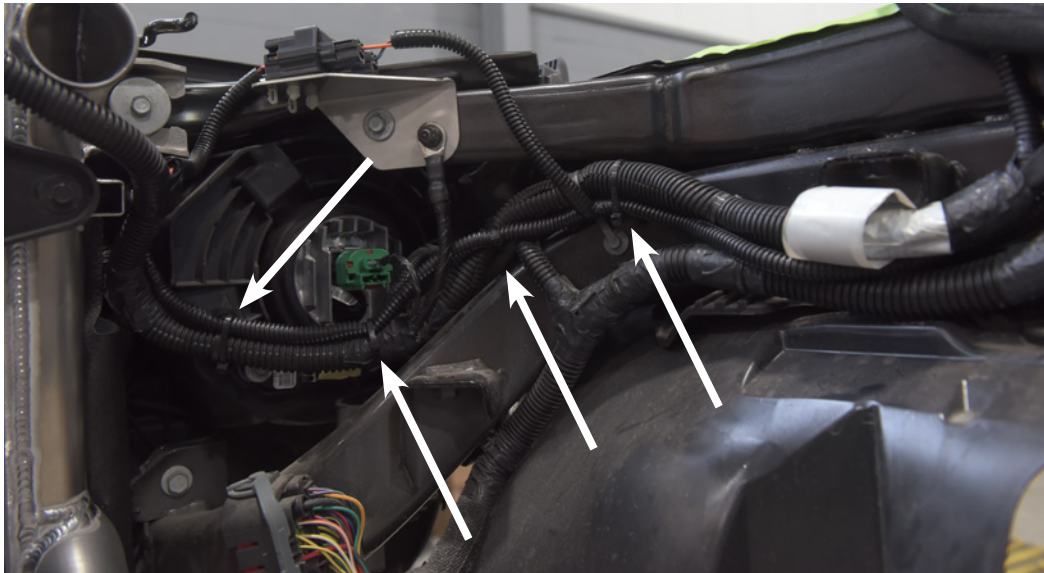

Figure 19
24. Attach the new fan harness along the factory harness with the 4 provided zip ties (Fig. 19).